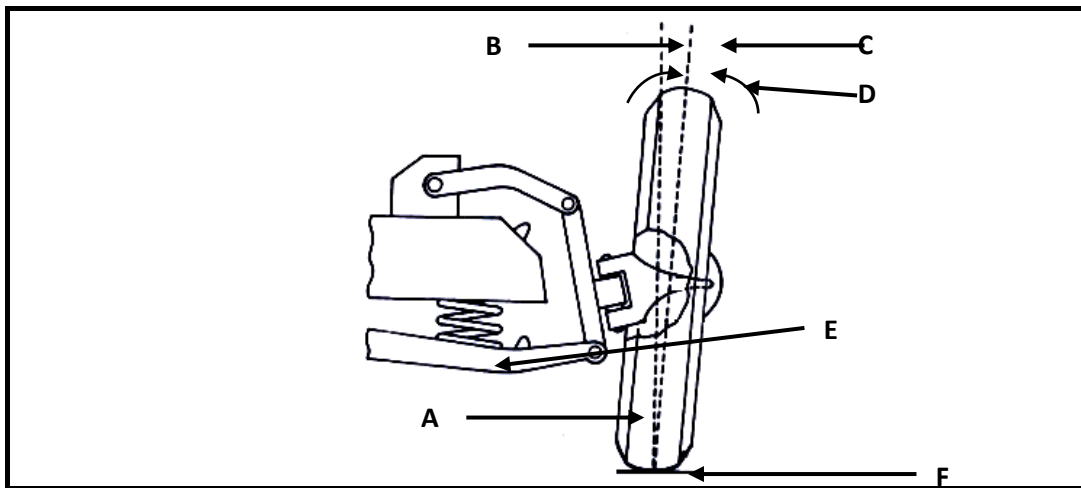

FIGURE 10.4
- 10.4 The diagram in FIGURE 10.4 below shows an alignment angle of a car front wheel. Answer the questions that follow.
- 10.4.1 Identify the type of alignment angle in FIGURE 10.4 above. (1)
- 10.4.2 Label the parts **A–F** in FIGURE 10.4 above. (6)
- 10.4.3 Briefly explain the type of alignment angle displayed in FIGURE 10.4 above. (2)